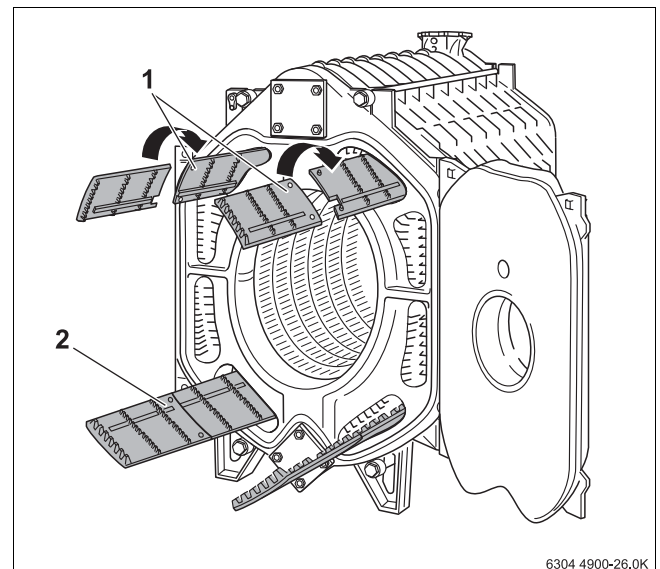
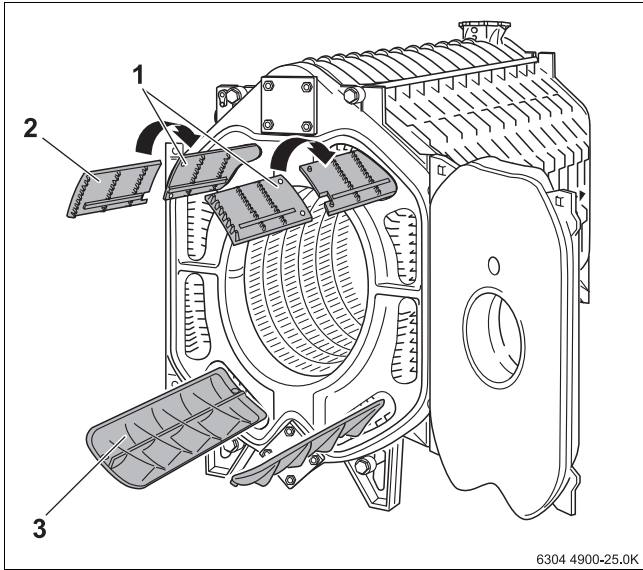
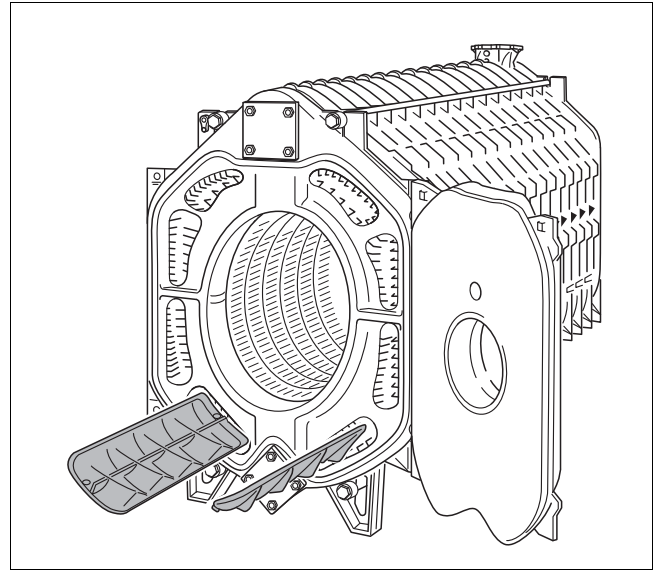

Fig 30 Inserting the hot gas baffles (boiler block with 9 sections)
Fig 31 Inserting the hot gas baffles (boiler block with 13 sections)
Fig 32 Inserting the hot gas baffles (boiler block with 15 sections)
→ Fig. 31, page 26 shows the baffle parts hooked together.
- Take hot gas baffles from the fittings case and insert into the hot gas flue according to the inscription on them (→ see Fig. 30, Fig. 31, page 26, Fig. 32, page 26 and Tab. 1, page 5).